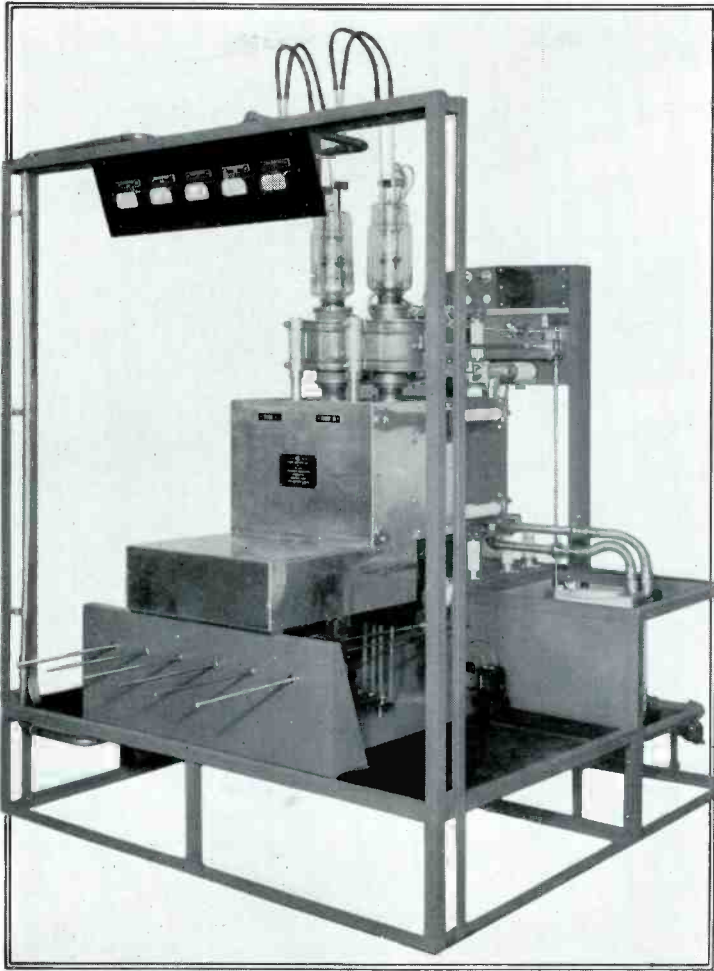

FIG. 12. THE 50-KW AMPLIFIER. SIX SHAFTS AT THE FRONT EXTEND THROUGH THE WALL OF THE AMPLIFIER ROOM H, SHOWN IN THE FLOOR PLAN FIG. 8
- E—50-kw. power amplifier stage, Fig. 12.
of the power amplifier. Fig. 12 shows 6 shafts which project through the wall at O. These are centralized controls for adjusting all the variable tuning circuits.